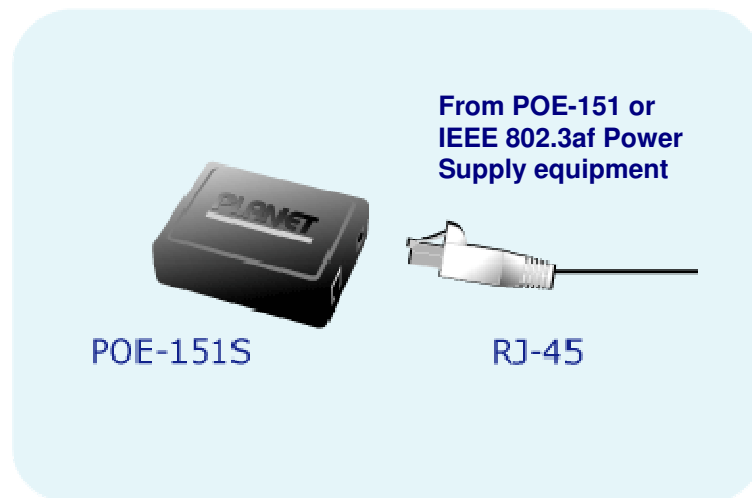

Figure 2: Connection to POE-151S
1. Connect a standard network cable from “Ethernet+DC” of POE-151 to “Ethernet+DC” of POE-151S. The POE LED of POE-151 / POE-151S will light on continuance. The screen in Figure 2 appears.